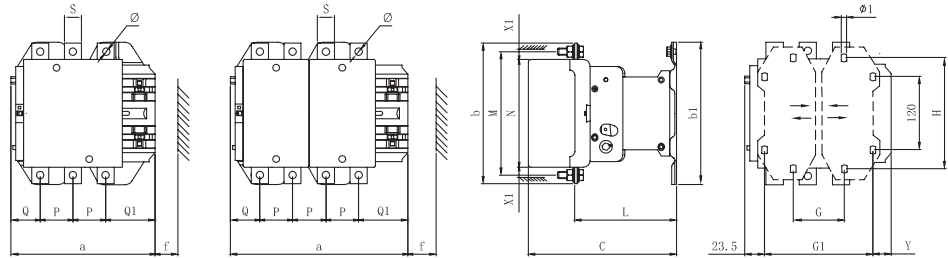

Fig. 3 Outline and installation dimensions of CJX2F-400, 4004, 500, and 5004
6.2 The outline and installation dimensions of CJX2F-400, 4004, 500, and 5004 see Fig. 3 and Table 5.